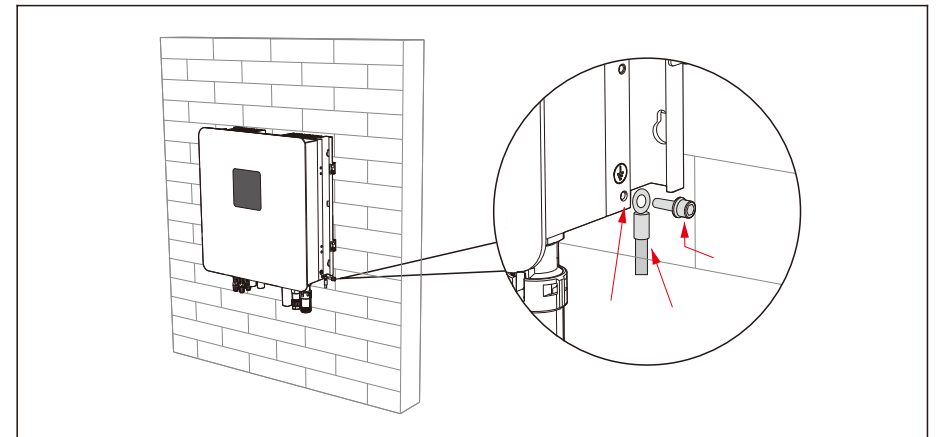

Figure 9: Diagram of connection of the earthing wire
Step 3: Fix the OT terminal with M5 screws in the position shown in Figure 9 , with the recommended locking torque of 2N.m.